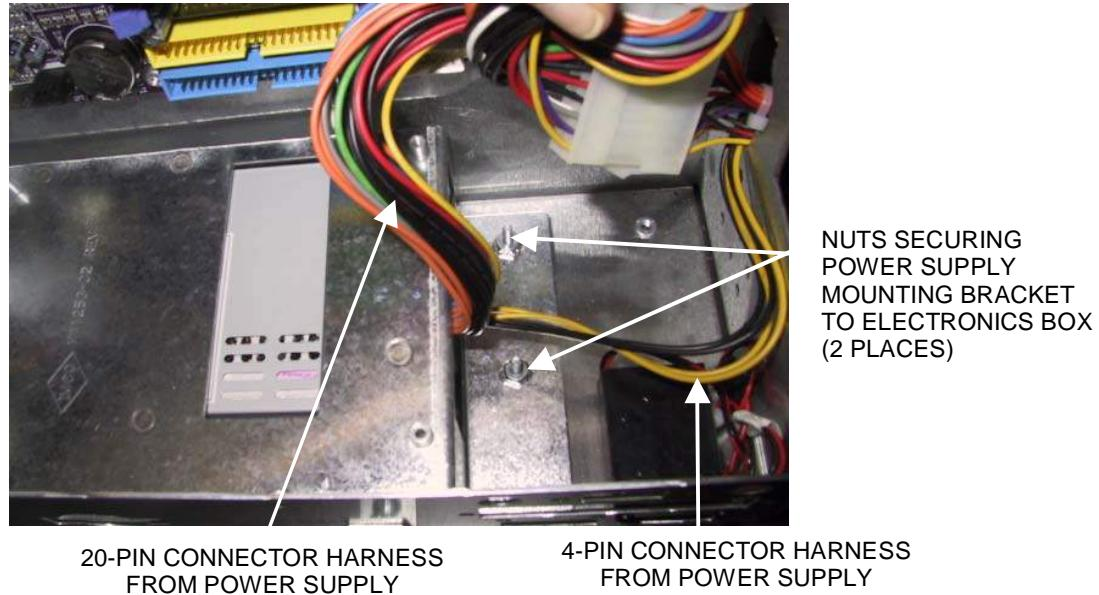

FIGURE 3 - POWER SUPPLY MOUNTING BRACKET INSIDE ELECTRONICS BOX
14. Disconnect the power cord from the power supply; also disconnect the 4-pin and 20-pin connector harnesses connecting the power supply to the game. See Figure 3.
15. Remove the 2 hex nuts securing the power supply/mounting bracket assembly to the electronics box. See Figure 3. Shift the assembly to the right; lift it up and out of the electronics box.
2. Place the power supply/mounting bracket assembly in the electronics box. See Figure 3. Slide the bracket assembly to the left so that the tab on the bracket fits into the slot on the electronics box. Secure the bracket to the electronics box with the 2 hex nuts. See Figure 3.